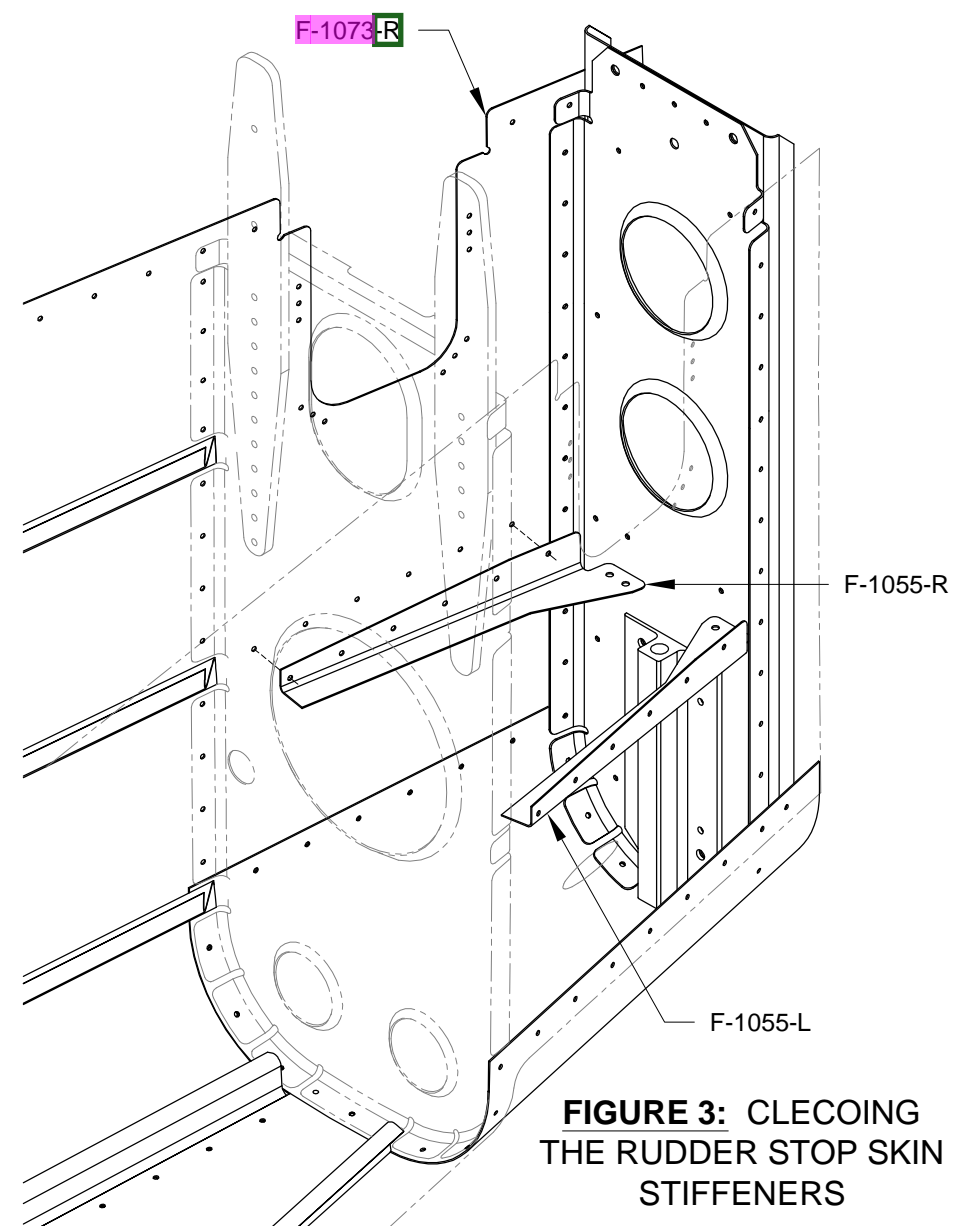

FIGURE 3: CLECOING THE RUDDER STOP SKIN STIFFENERS
Step 5: Cleco the **F-1055-R** & **L** Rudder Stop Skin Stiffeners to the **F-1073-R** & **-L** Side Skins respectively as shown in Figure 3.